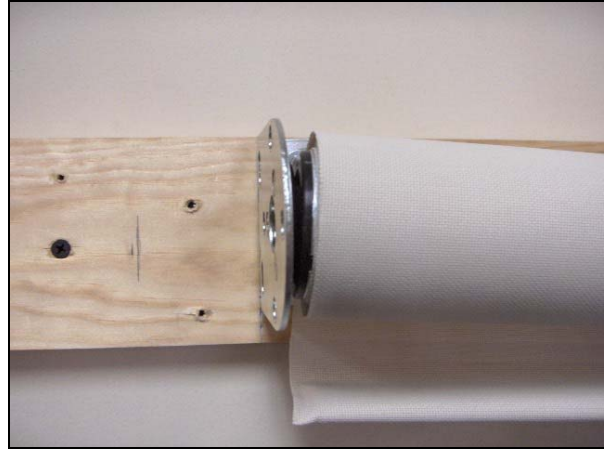

Figure 12 Motor Idler Collapsed in Bracket
- Gently push the shade toward the idler bracket until the idler pin on the shade collapses. See Figure 12.